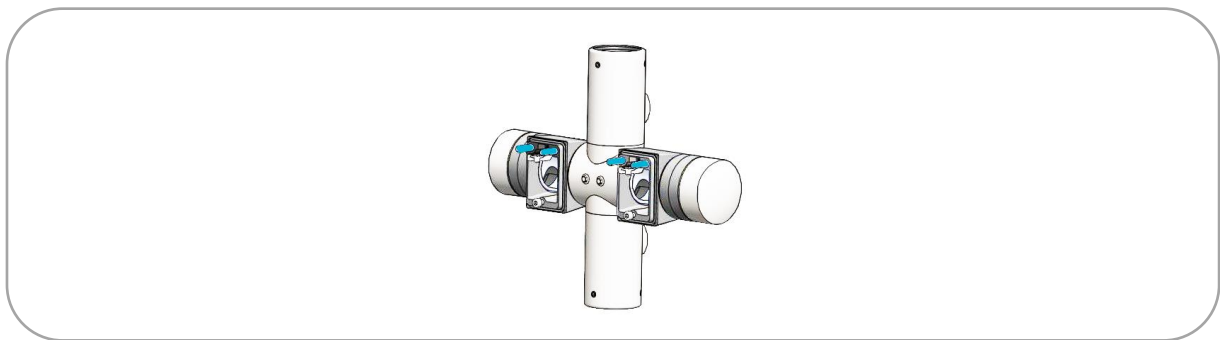

Figure 38: Crosspiece adapter
- The upper side of the crosspiece adapter is the side with the four protruding metal pins (Figure 38).